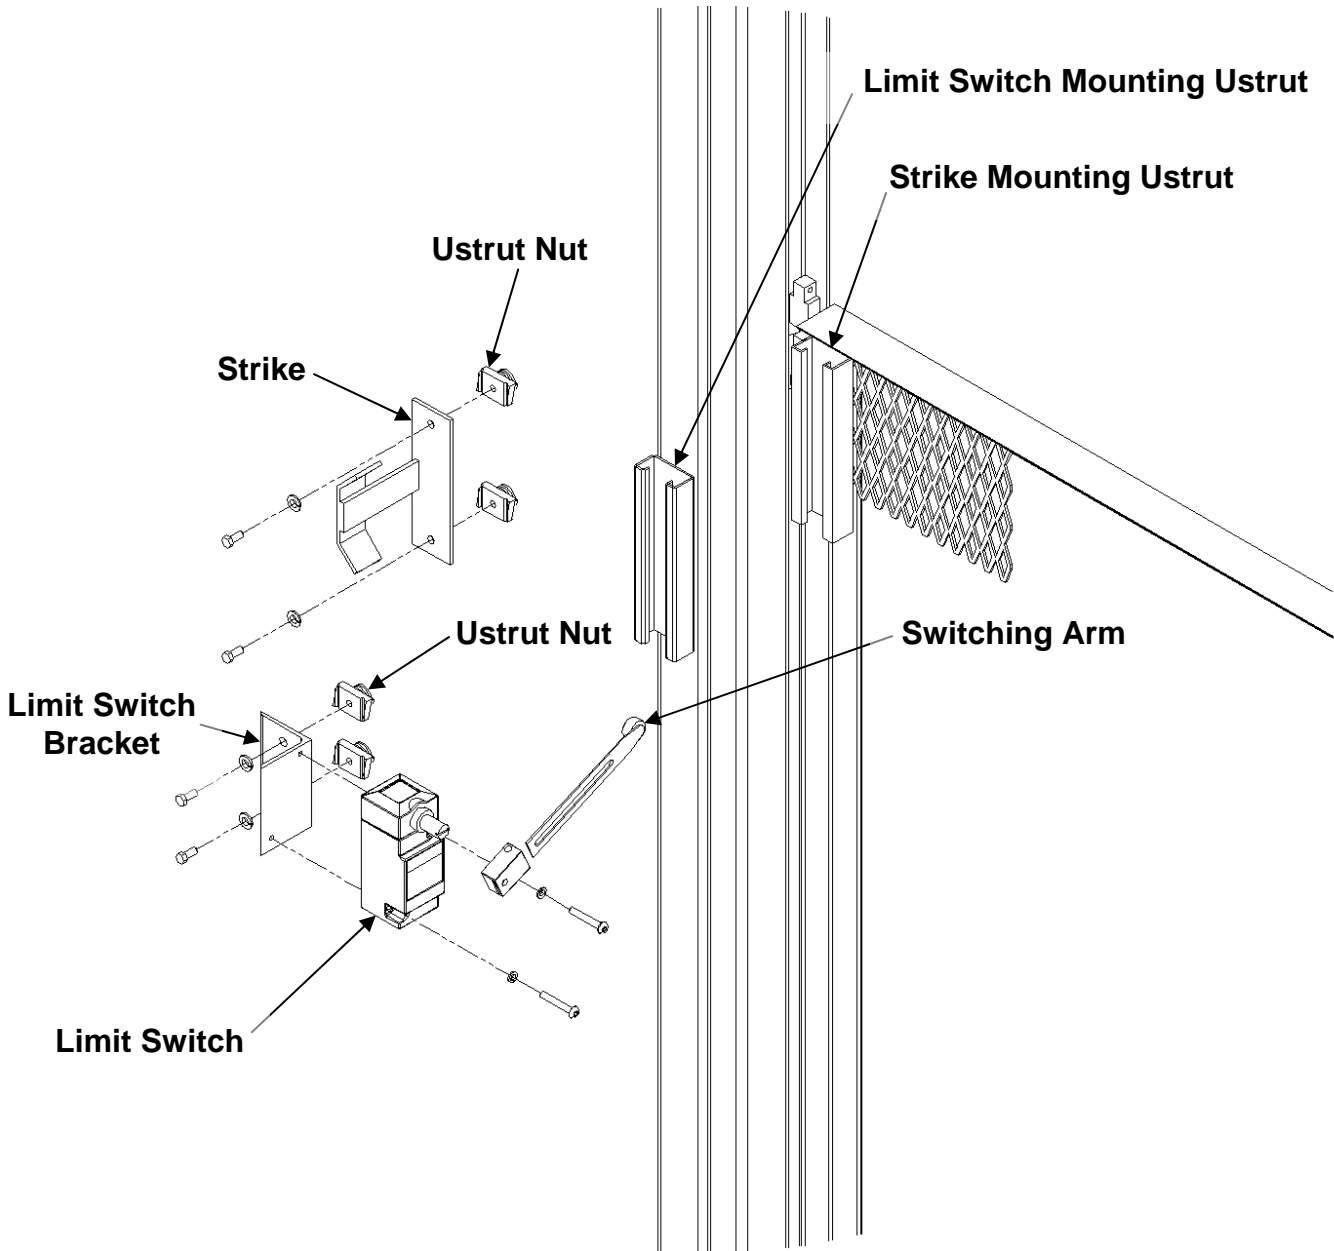

FIGURE 18 – Upper and Lower Limit Switch Mounting
13. Mount both the upper and lower limit switches to the rear of the post tubes (see **Figure 18**). The switch arms must be rotated 90 degrees so they will contact the switch cam mounted to the gate panel.
14. With the ¼"-20 UNC screws and the Unistrut nuts, mount the switch activation cam(s) to the Unistrut channel(s) mounted to the gate panel (see **Figure 18**).